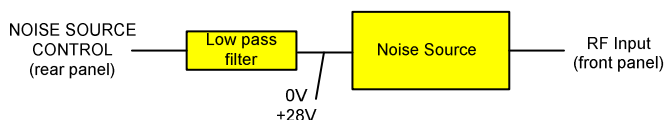

Fig. 2-73: Preparation for calibration
1. Connect the noise source to the RF input of the R&S ZVL-K1 (see Fig. 2-73).
3. Provide the voltage supply for the noise source by connecting it to the +28 V connector of the R&S ZVL-K1 (labeled NOISE SOURCE CONTROL on the rear panel of the instrument) via a coax cable and the lowpass filter. Connect the lowpass filter between the noise source itself and the NOISE SOURCE CONTROL connector of the R&S ZVL-K1 as shown in Fig. 2-73.